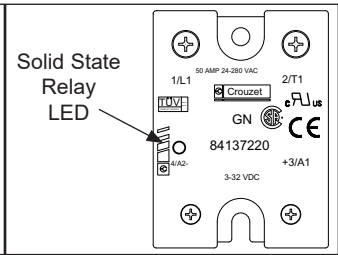

Figure 5. Solid State Relay
**NOTE: During heat mode, this Red LED is very dim, so it may be difficult to verify if the Control Board is or is not calling for heat. It is recommended that you observe the small round green LED on the Solid State Relay (Figure 5) for mode and diagnostic purposes. When the green LED on the Solid State Relay is on, it means that the Control Board is calling for heat. When off, it means that the Control Board is NOT calling for heat.**